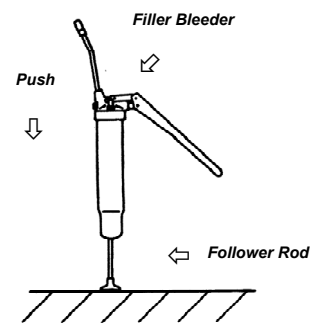

Figure 5
- 5) Bleed air from grease (see Figure 5).
- 6) Bleed the air from the grease gun (see Figure 5).
- 3) Push the grease gun firmly down while holding the filler bleeder valve open (see Figure 5)